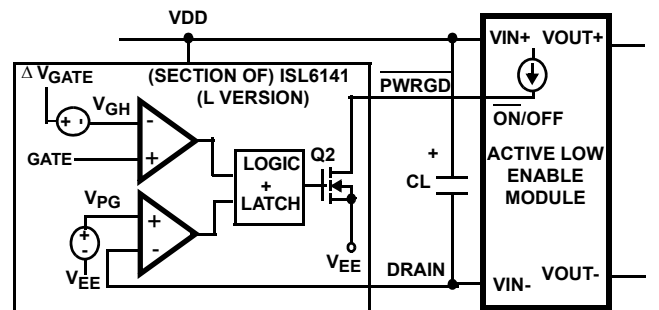

FIGURE 30. ACTIVE LOW ENABLE MODULE
**ISL6141** (L version; Figure 30): Under normal conditions ( $DRAIN\ voltage - V_{EE} < V_{PG}$ , and  $\Delta V_{GATE} - V_{GATE} < V_{GH}$ ) the Q2 DMOS will turn on, pulling  $\overline{PWRGD}$  low, enabling the module.